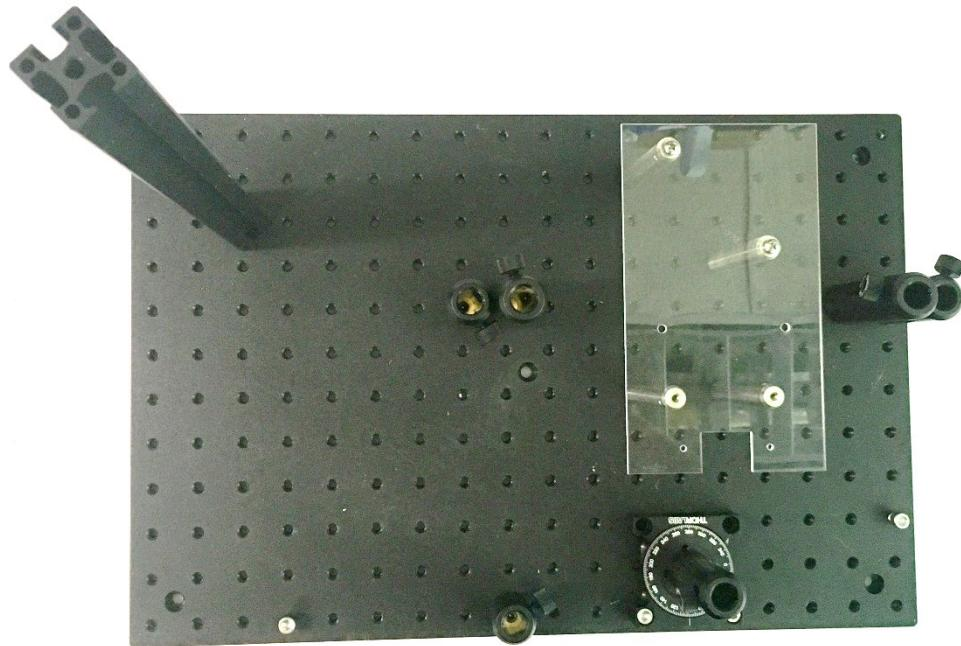

Figure 6 Completed head-fixed rig base
- See Figure 6 for the completed head-fixed rig base.